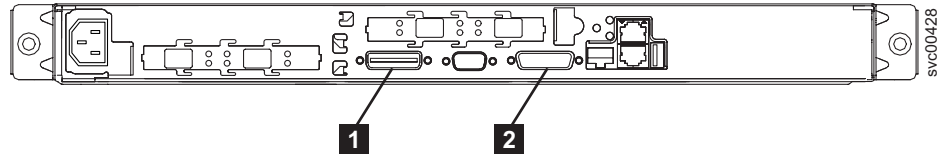

Figure 85. SAN Volume Controller 2145-4F2 CT2 IN and CT2 OUT ports
- 1) Order a CT2 cable (part number 00N7004). The cable is a 3-in-1 keyboard, display, and mouse cable that plugs into the C2T OUT port **2** on the rear of the node, as shown in Figure 85 on page 103.